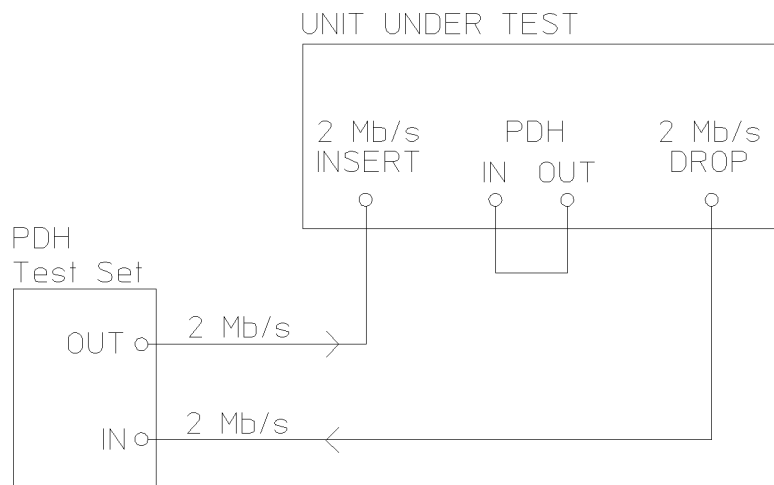

Figure 3-24
2. Connect the equipment as shown in Figure 3-24.